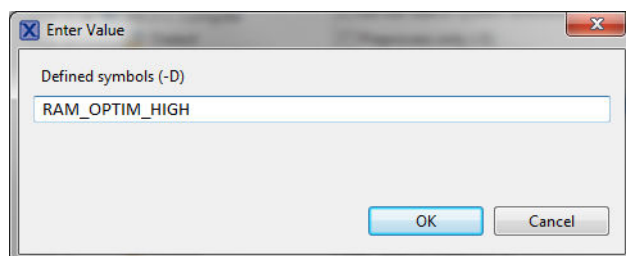

Figure 1-2. Symbol definition
5. In the dialog that appears (see Figure 1-2), type the following: